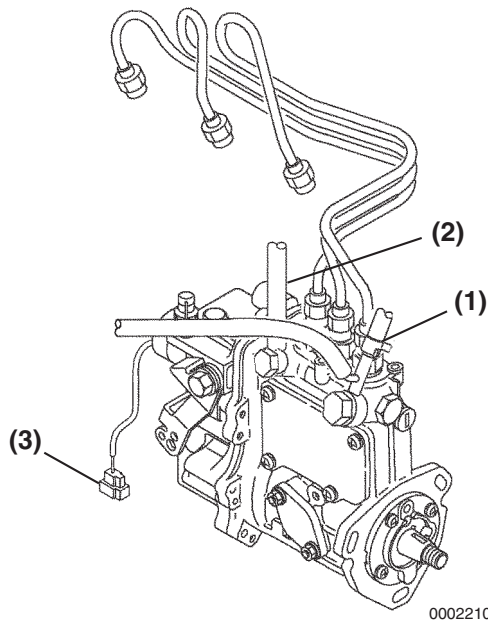

Figure 7-8
7. Disconnect the fuel return lines from the fitting on the fuel injection pump (**Figure 7-8, (1)**). Plug the open ends of the lines to minimize leakage and prevent contamination.
8. Remove the fuel supply line (**Figure 7-8, (2)**) from the fitting on the fuel injection pump.
11. Separate the stop solenoid wiring connector (**Figure 7-8, (3)**).